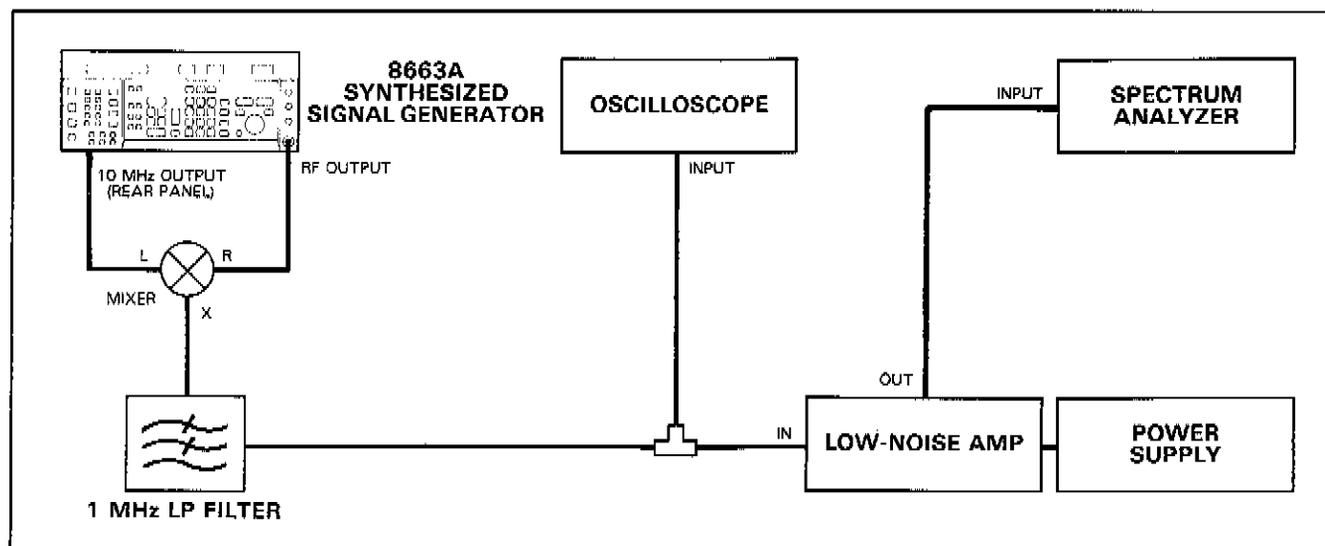

Figure 4-9. SSB Phase Noise Test Setup
1. Connect instruments as shown in Figure 4-9.
2. Set the Generator to 10.010 (10.10) MHz and -50 dBm amplitude. Set the spectrum analyzer to 40 dB of input attenuation and view the 10 (100) kHz signal at any calibrated combination of resolution and bandwidth (no video filtering).